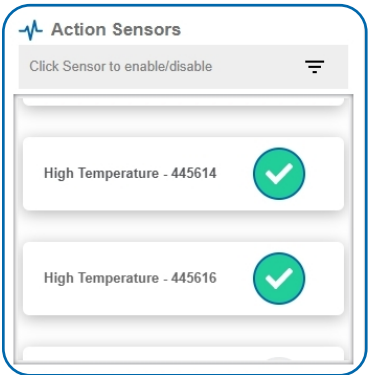

Figure 20
- By default, the sensor(s) will not be assigned to the action conditions you've just set. To assign a sensor, find the device(s) you want to designate for this action and select. Selected sensor boxes will turn green when activated. Choose the sensor box again to unassign the sensor from the action. See Figure 20.